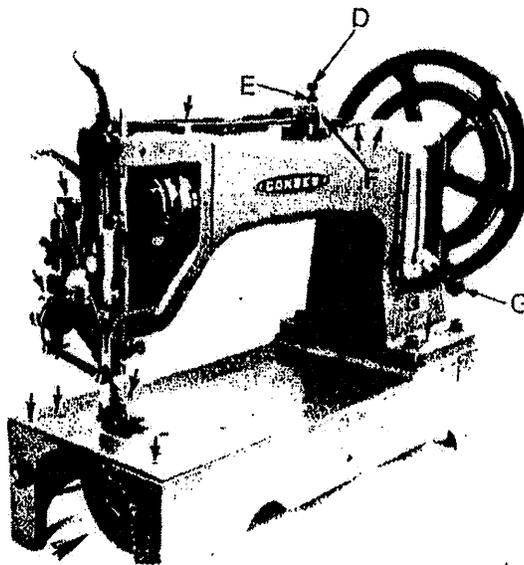

Fig. 10 Oiling Points at front of Machine
a. Oiling points are shown in figures 10 and 11.
The length of stitch is regulated by loosening the serrated nut on the reverse lever G Fig. 10 in the slot on the front of the upright part of the arm.To lengthen the stitch,move the lever downward.To shorten the stitch,move the lever upward and then tighten the nut. When making reverse stitch move the lever upward as far as it will go.
The pressure on the material is regulated by means of the hexagon head screw D, Fig. 10. Loosen the hexagon lock nut, E, F g. 10 and turn the screw 1) to the right to increase the pressure or to the left to decrease the pressure. When the desired pressure has been obtained, hold the screw D with a wrench to keep it from turning while the lock nut (E) is being tightened against the bracket (F).
To insure easy running and prevent unnecessary wear of the machine, oil all parts which are in movable contact. When the machine is in continuous use, oil should be applied frequently. The places where the machine should be oiled are indicated in Figs. 10 and 11 by arrows pointing to the oil holes and bearings. **Important Note:** The oil holes on the machine are indicated by a red circle around the oil hole. Oil should be regularly applied to the shuttle race.